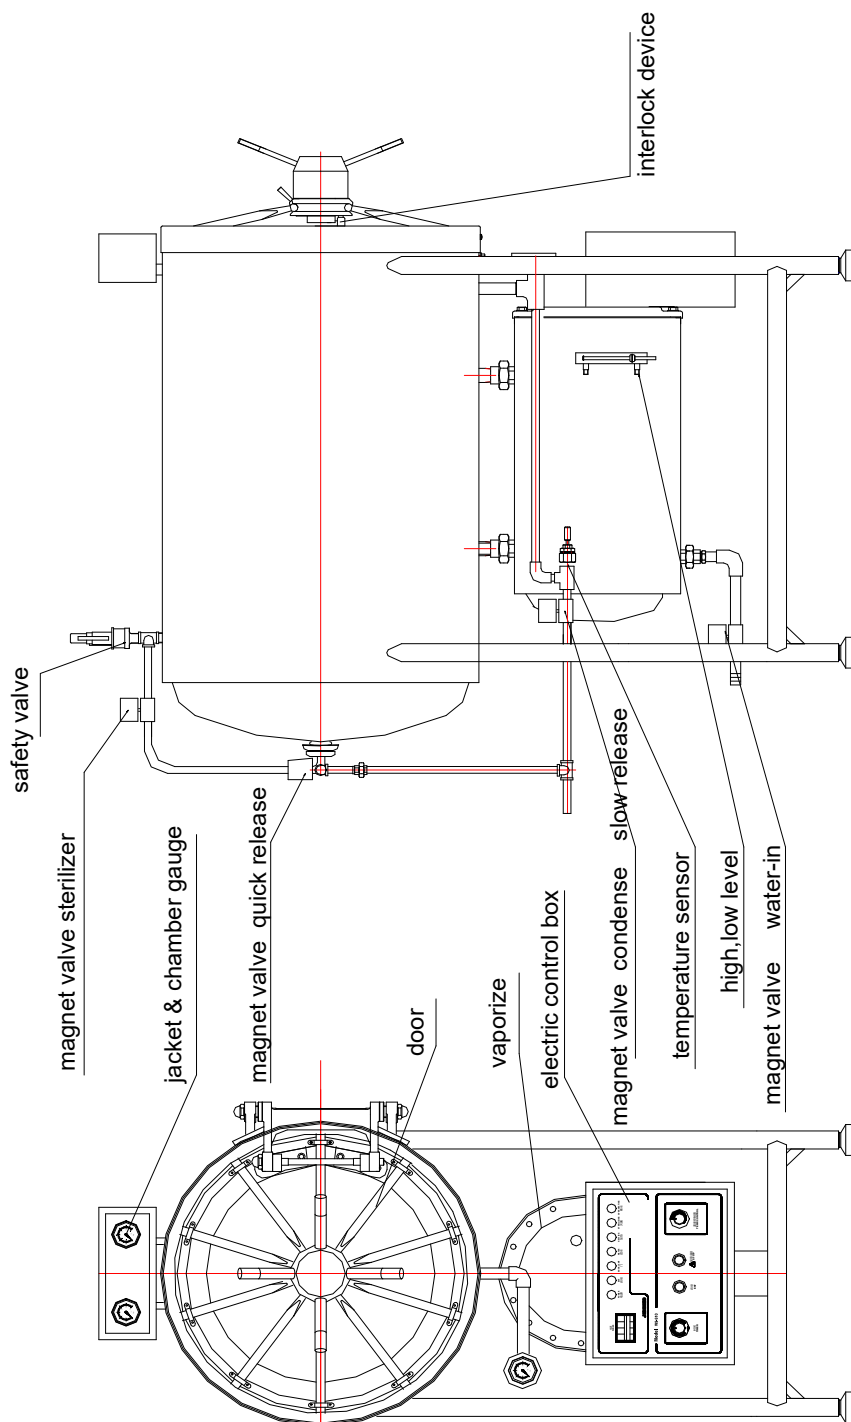

Fig3
- for installation. More floor space around the sterilizer is set aside for operating and repairing. The Min. Installation size for single door 200×93×182cm, for double doors 200×93×182cm.(see fig.3)